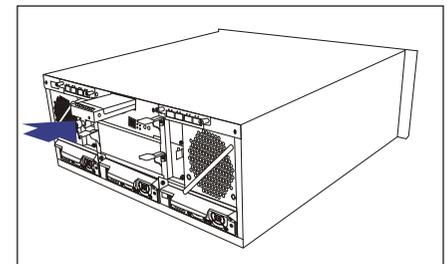

Figure 13: Installing the BBU Module
Step 2. Align the BBU module with the BBU module slot. Gently insert the BBU module until the back of the BBU module reaches the end of the slot. Secure the BBU module to the chassis by tightening the hand screw on the back of the BBU module. (See **Figure 13**)